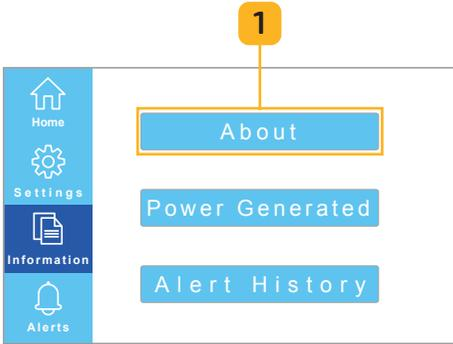

Fig. 6.35 • Select about button
1. Select the **About** button to view information about the unit's Hardware Model, Software Version, and General Parameters (Fig. 6.35).